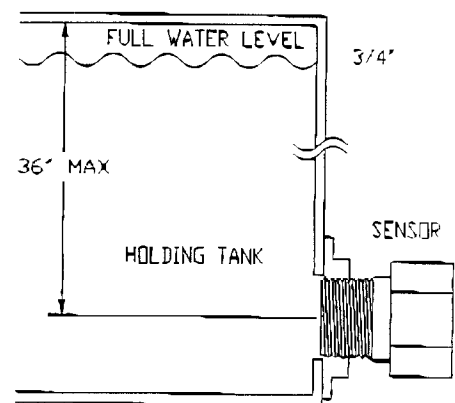

Fig. 7
- 1) Fill the tank to the normally full position. This is usually 3/4" down from the top of the tank (See fig. 7).